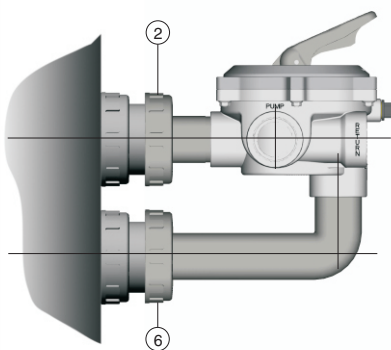

Fig. 4
1. Place the flat rubber seal (3) into the valve port marked TOP. Screw the union (1) into the valve port having passed it through the coupling (2). Tighten the union (1) firmly to ensure a good watertight joint.
2. Fit the selector valve to the upper filter outlet, ensuring that the o-ring (4) is in place between the filter and the valve assembly. Gently tighten the coupling (2) ensuring that the lower port of the valve remains perpendicular to the floor.
3. Fit the elbow (5) with the coupling (6) and the seal (4). Do not use adhesive at this stage.
4. Gently tighten the couplings (6) and (2) as shown in figure 4. Note the area of the elbow used for adhesive jointing. Unscrew coupling (6) and remove the elbow (5), clean the jointing area with solvent and apply the correct adhesive (solvent cement based on THF). Re-assemble as shown in figure 4 and leave to dry for at least 2 hours before using.
4. Viser légèrement l'écrou (6) et serrer fermement l'écrou (2) (figure 4) afin d'obtenir un parfait alignement de la vanne. Démontez l'écrou (6) et le coude (5) et nettoyez les endroits du collage avec du dissolvant. Appliquez la colle à base de THF sur le coude et sur la vanne. Positionnez à nouveau selon figure 4 en serrant l'écrou (6) et laissez sécher 2 heures avant de mettre l'installation en fonctionnement.
4. Avvitare dolcemente la flangia (6) e fissare fortemente la flangia (2) (vedi fig. 4) in modo da ottenere il perfetto allineamento della valvola. Smontare la flangia (6) e il gomito (5) e pulire le superfici da incollare, con solvente. Utilizzare Tetraidrofurano (THF) o collante a base di THF. Applicare il collante sia sul gomito sia nel corrispondente foro della valvola. Posizionare, di nuovo (vedi fig. 4), serrando la flangia (6), la valvola, lasciando che indurisca per almeno due ore prima di far funzionare l'impianto.
4. Mutter (6) leicht andrehen und Mutter (2) fest anziehen gem. Abb. 4, so dass das Ventil perfekt in Linie ist. Mutter (6) und Knie (5) wieder abmontieren und die Klebezonen mit einem Lösemittel reinigen. Einen THF Klebel auf das Knie und das Ventil auftragen. Beide Teile wieder gem. Abb. 4 befestigen und Mutter (6) fest andrehen. Vor Inbetriebnahme 2 Stunden trocknen lassen.